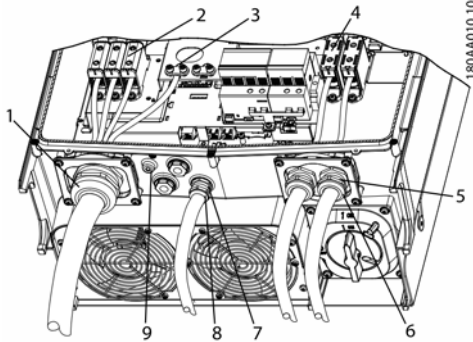

Figure 5.2 Overview of inverter with torque indications
If the blind plugs are removed (see (7) in figure 5.2), use the following fittings: 3, 3S, 4, 4X, 6, 6P.